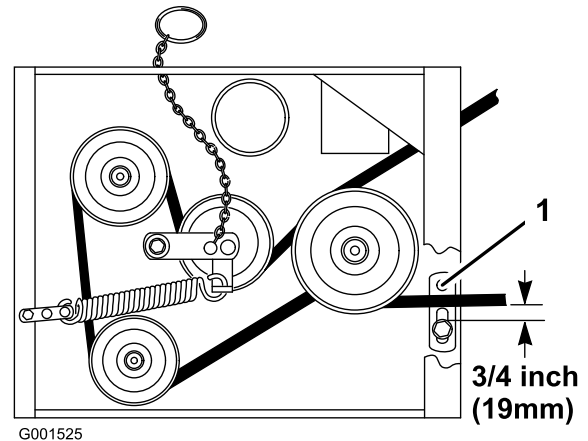

Figure 50
Note: The distance between the belt guide and the mower belt should be 3/4 inch (19 mm) when you engage the mower belt (Figure 50). Adjust the mower belt as necessary. The disengaged belt should not drag or fall off the pulley when the guides are properly adjusted.
- Check the belt guide under the engine frame for proper adjustment (Figure 50).